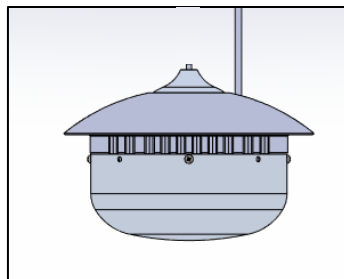

FIG. 5 - REFLECTOR
1. REFLECTOR ASSEMBLY with CORD attached. (shown in FIG. 5)